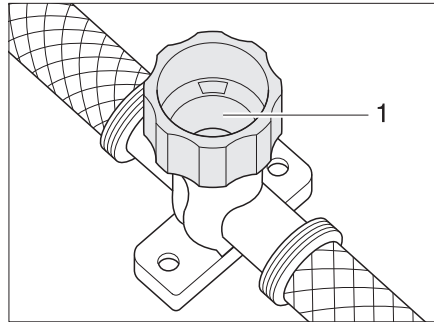

Fig. 123 Drain cock for water heater
- Close the drain cock. To do so, turn the cap (Fig. 123,1) clockwise.
- Open the drain cock of the water heater. To do so turn the cap (Fig. 123,1) anti-clockwise.